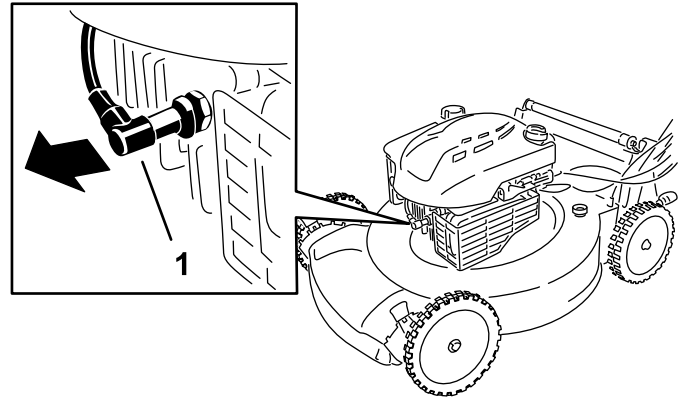

Figure 24
2. Disconnect the spark-plug wire from the spark plug (Figure 24).
2. Disconnect the wire from the spark plug (Figure 24).